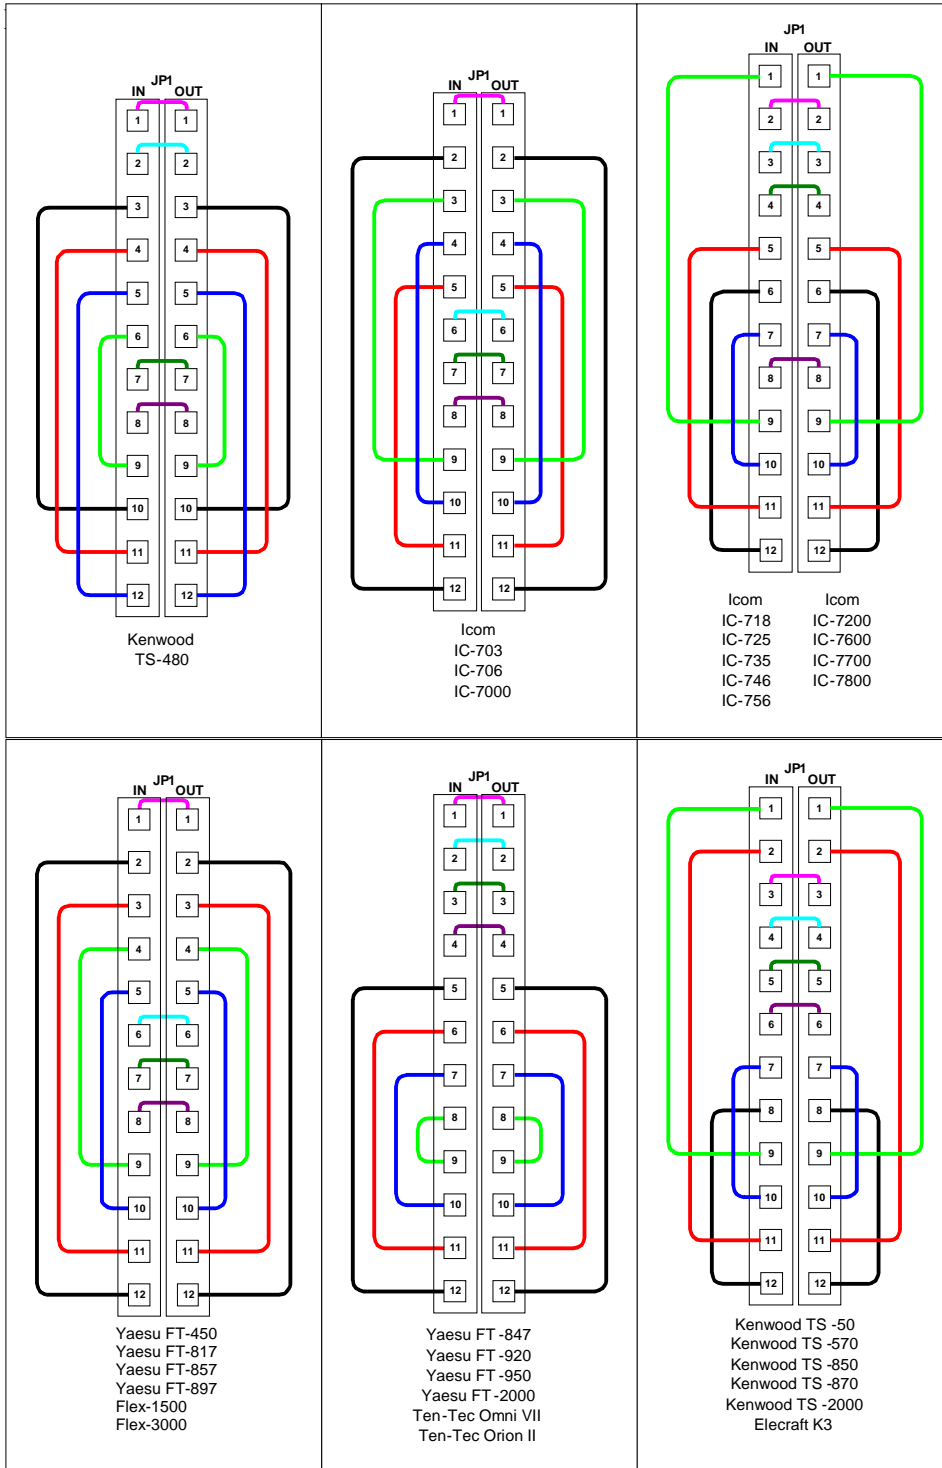

Figure 4
- Locate your radio in Figure 1 and Figure 4 and use the supplied jumper wires for configuring the mic wiring on JP1. JP1 is a dual 12-pin header located at the far left of the PC board. Starting with pin 1, place the wire connector over the pin and push it all the way down. Place the other end of the wire over the appropriate pin on the same header or opposite header if it is a pass-thru jumper, and push it all the way down. Continue until all 12 wires have been installed. (Note that the wire colors shown in Figure 4 do not correspond to the actual jumper wire colors.)